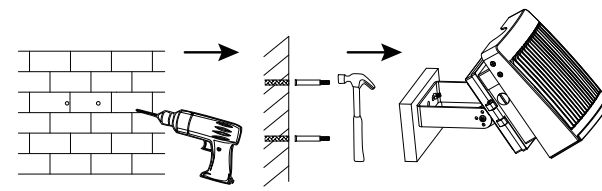

Figure 6
2. Drill holes on the points and driven into expansion screws. Fix the bracket onto the wall with nuts, flat washers and spring washers. (See figure 6)